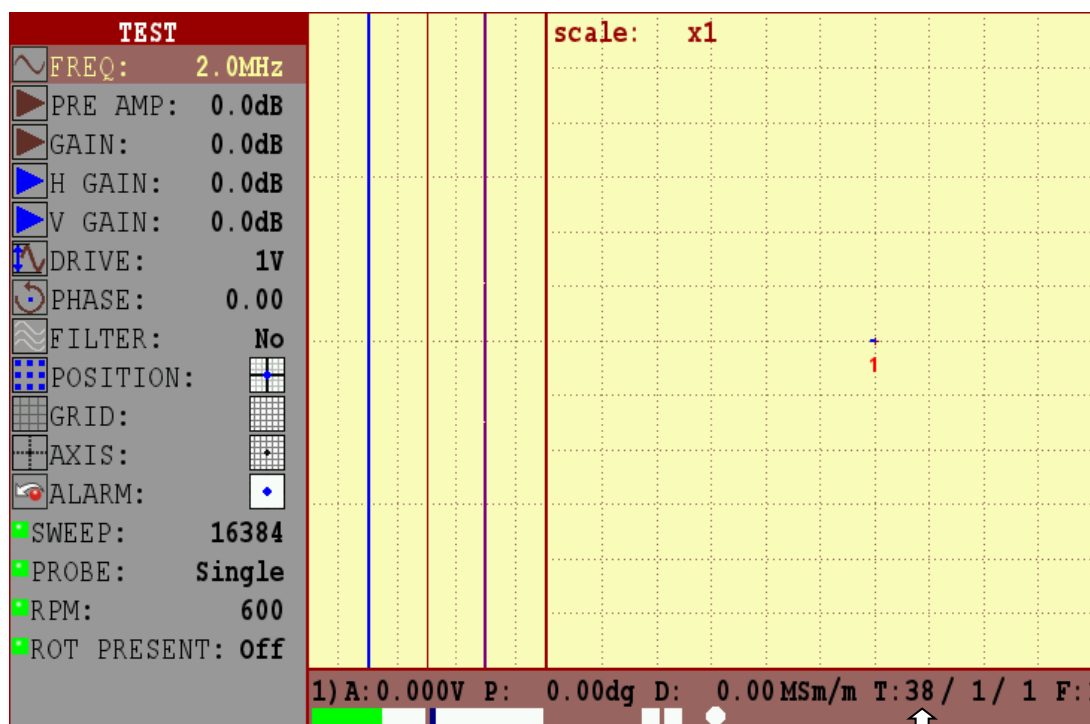

FIGURE 1 - Settings of «TEST» menu
3.2.2 Select parameter "PROBE"– "Single" type (pos. 14, FIGURE 1).
3.2.4 Set the ECP frequency " FREQ" (pos. 1, FIGURE 1) in a range specified in the registration certificate for the ECP.
3.2.5 Set the ECP drive " DRIVE" (pos. 6, FIGURE 1) not more than 2 V, if the object of testing has no paint coating. If the object of testing has heavy paint coating, then it is allowed to set the parameter of the ECP drive ( DRIVE) more than 2 V, but this increasing should not lead to the overshoot of the input circuit occupancy (over-occupancy).